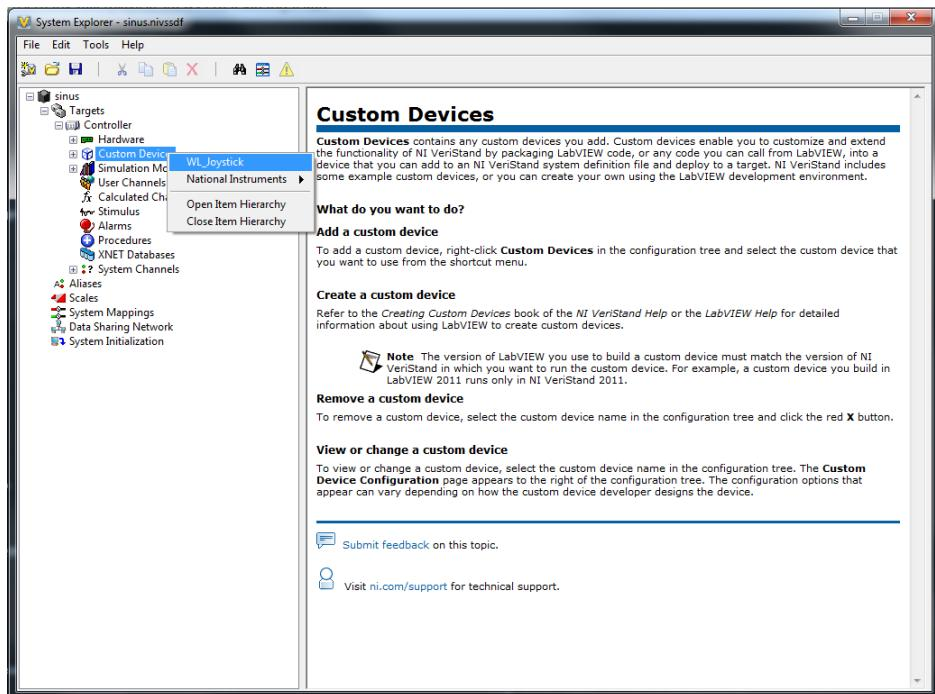

Figure 20: Custom device selection
3. Add custom devices, such as network input, by right clicking the custom device pane and choosing the required device4. Figure 20 shows an example with the Sixaxis (WL\_Joystick) device. Upon selection, a subfolder with the device name appears in the tree with signals listed inside it.